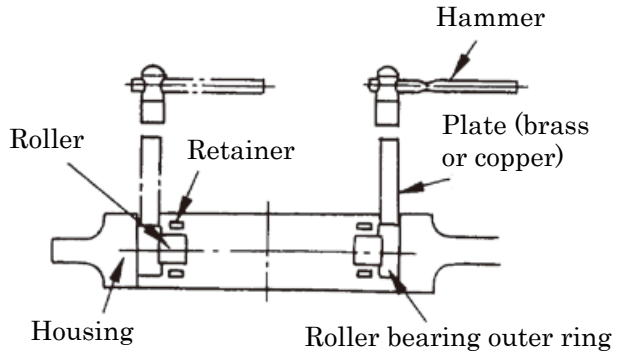

Fig.18 Removal of roller bearing outer ring
- (1) The pliers are used for removing the C-type snap ring and the puller for removing the slinger and bearing.
- (2) For the roller bearing, apply a brass or copper plate to the outer ring and alternately hit it at diagonal positions on the circumference with a hammer to remove it from the shield. (Fig.18)